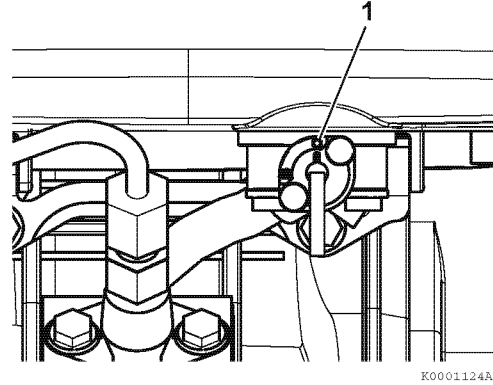

Figure 11
2. Make sure the fuel cock is in the ON position (1, **Figure 11**).